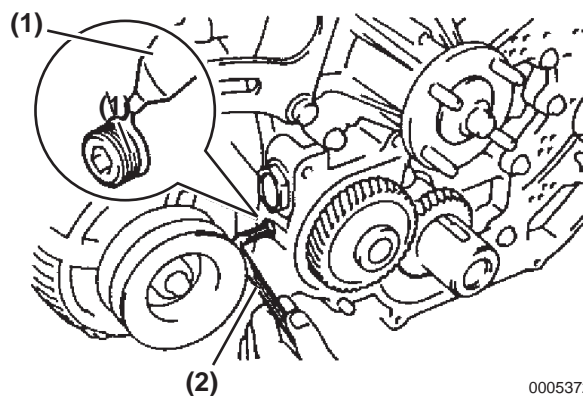

Figure 8-20
9. Apply TOYOTA P/N 08833-00070, THREE BOND 1344, LOCTITE 242 or equivalent adhesive (**Figure 8-20, (1)**) to the threaded portion of taper screw plug (2 to 3 threads).
10. Tighten the taper screw plug using a 5 mm hexagon wrench (**Figure 8-20, (2)**). **NOTICE:** Avoid contaminating the oil pan and cylinder block mounting surfaces with oil.